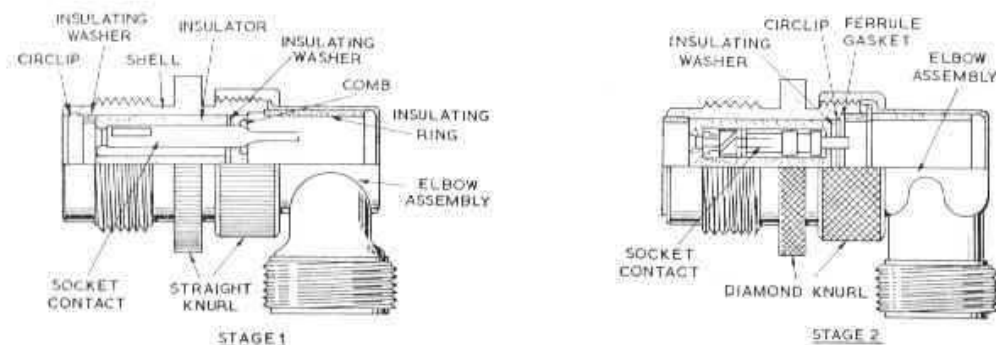

Fig. 14. Free unit (short reach), stages of development
30. This style of unit (fig. 14) was manufactured in aluminium only and differs from the normal free unit (at stage 1) in that the rear of the shell is shorter and accommodates a brass elbow outlet fitting with a dull nickel-plated finish. The unit was designed to be easily withdrawn where space is limited. Other differences are as follows:—the insulating sleeve is replaced by an insulating ring; the long insulator is of bakelite and contains rolled type contacts; the coupling nut and the shell rim have a straight knurl.
32. Units at this stage (fig. 14) are available with aluminium or steel shells and differ from those at stage 2 in that the elbow assembly is modified; the insulator is shorter and together with the comb insulator are of alkyd; the ferrule gasket and the insulating rings are of silicone rubber. This style of unit is designed to operate between ambient temperatures of -65 degrees C. and $+150$ degrees C. The sealing gasket is not included in the assembly but is supplied with the unit in case it should be required (viz. when the unit is mated with an early type of fixed unit).